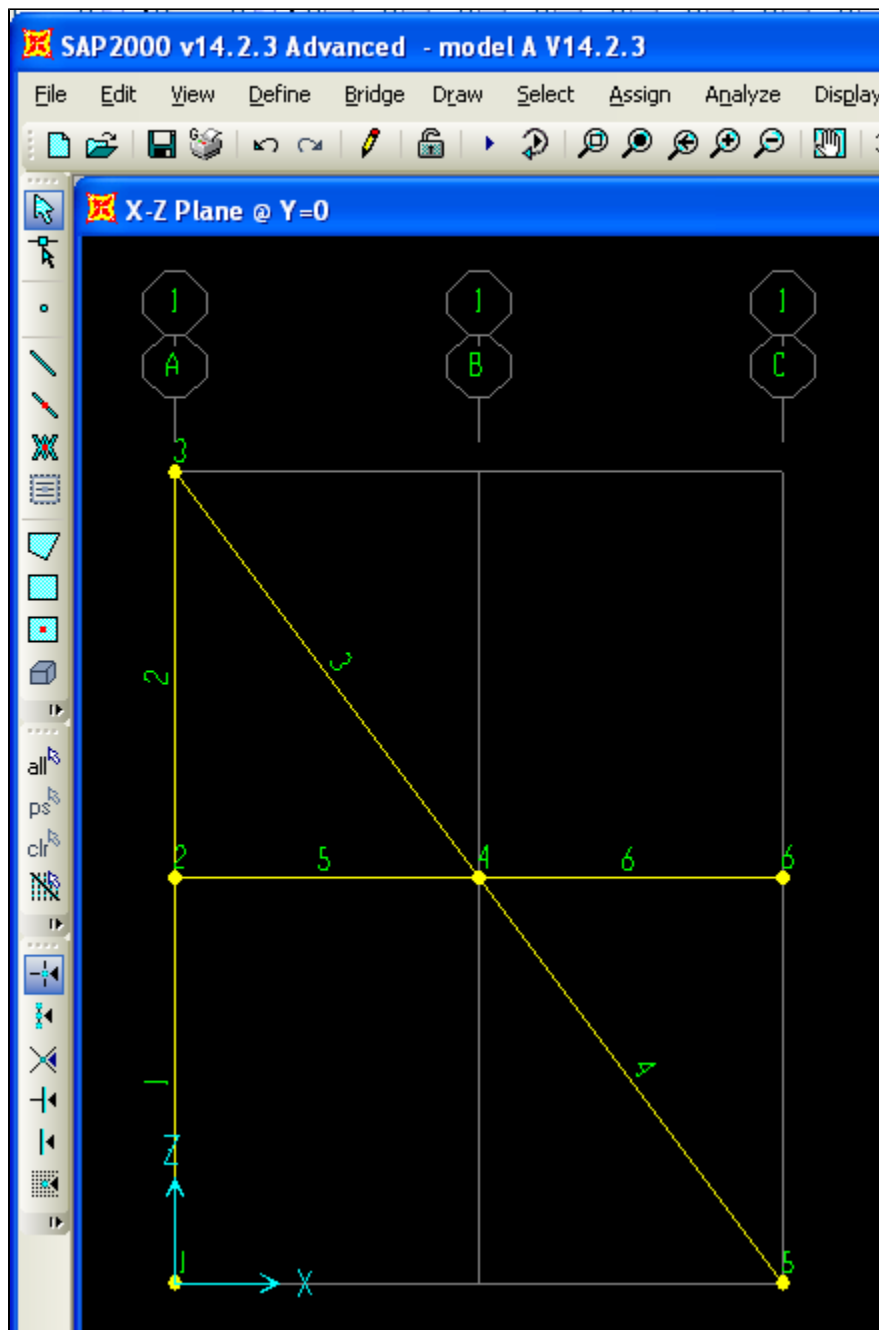

Figure 2 - SAP2000 model
To begin, use SAP2000 to create the model shown in Figure 2:
2. In the X-Z plane, draw the six frame elements shown in Figure 2.